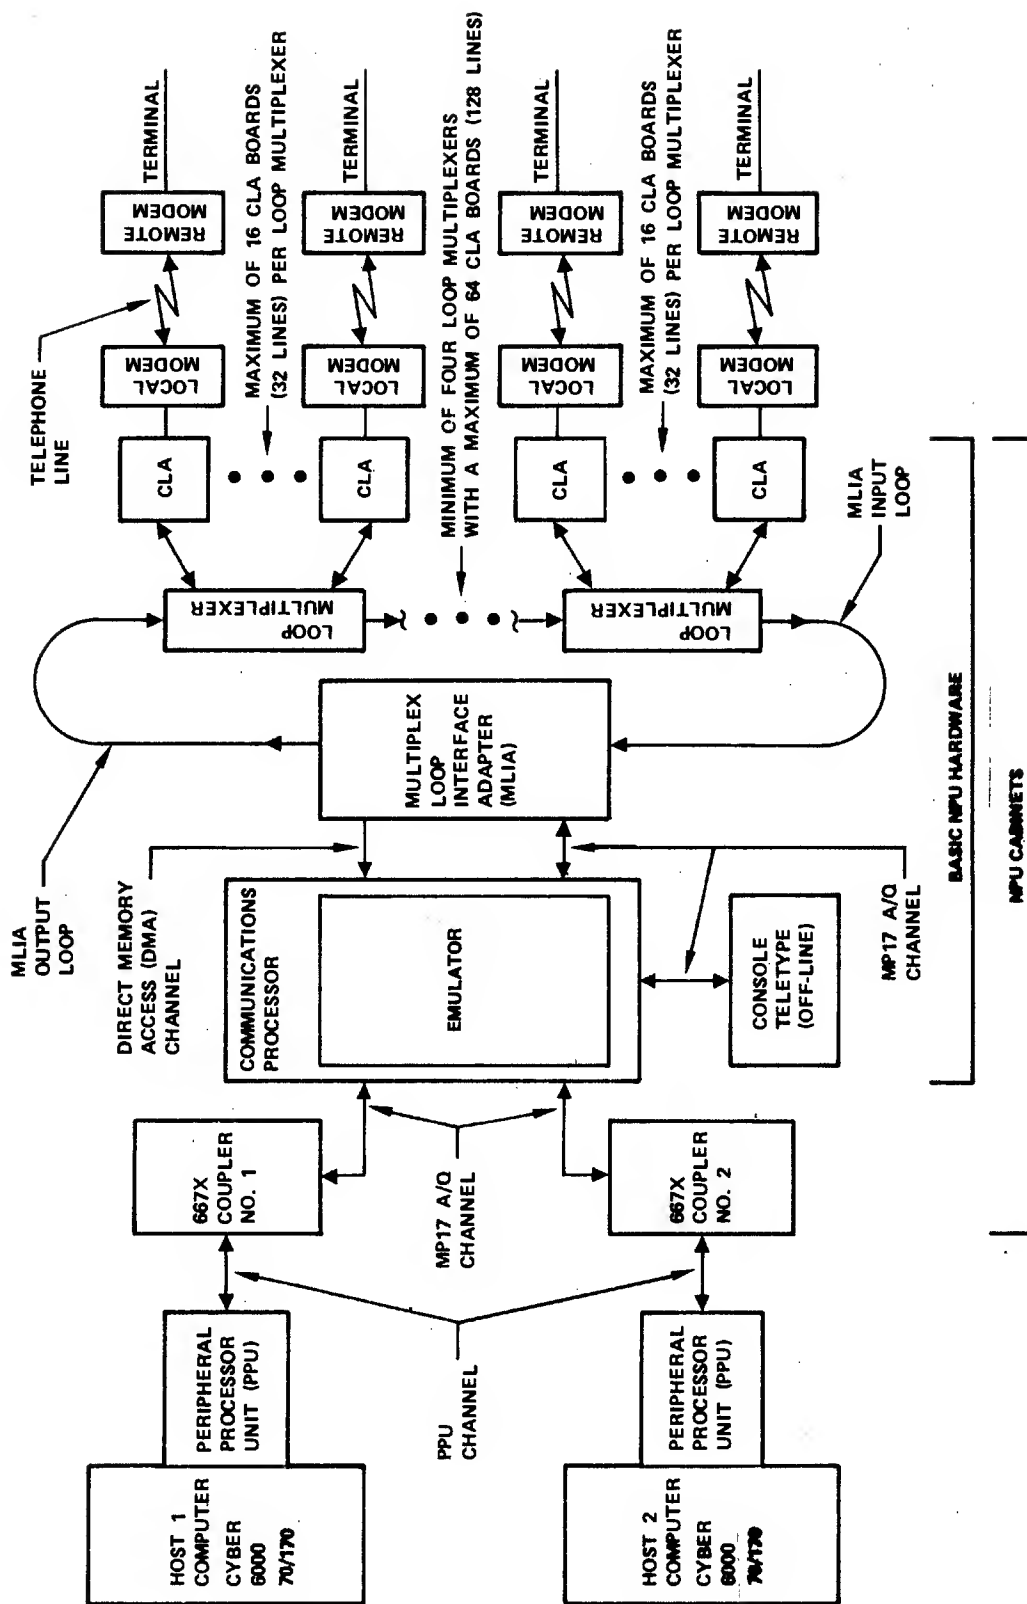

Figure 1-1. Maximum Equipment Configuration for the 2550-101 Emulator
The emulator responds to the host channel commands which are entered into the emulation coupler (EC). See figure 1-1. The commands are interpreted, and tasks that are appropriate for the 6671 and 6676 DSCs are performed. These tasks consist of activating, deactivating, and conducting communications over designated lines. A maximum of 128 remote terminal lines, with line speeds ranging up to 9600 bps, can be accommodated by the emulator.
The equipment configuration required to operate the emulator is illustrated in figure 1-1 and consists of: